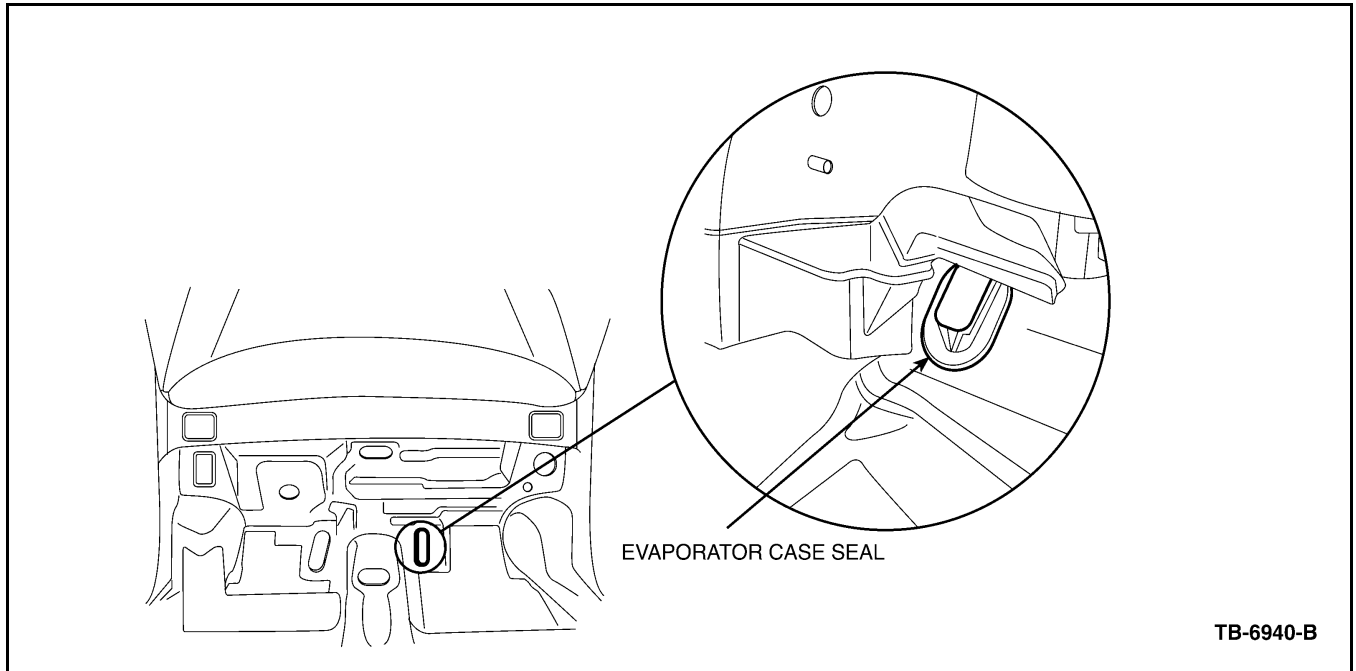

Figure 4 - Article 05-13-3
1. Inspect for a mis-positioned evaporator case seal at the heater core inlet/outlet. Repair as necessary (Figure 4).